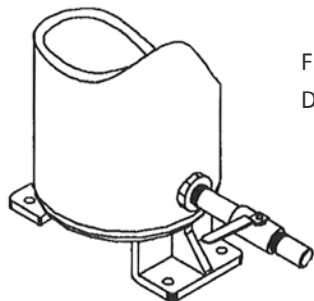
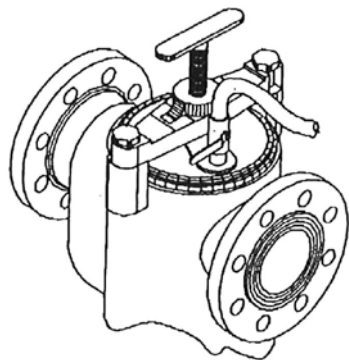

Figure 1
Figure 2
It is recommended that the bottom drain plug be removed and a drain valve be installed at the bottom of the basket chamber for strainers sized 1" and 1-1/2" flanged connections and for strainers sized 3/8" – 3" threaded connections. It is recommended that the side drain plug be removed and a drain valve be installed at the side of the basket chamber for strainers sized 2" – 8" flanged connections as shown in Fig. 1.
**CAUTION:** A vent is required when fluids other than water and with temperatures in excess of 120° F are to be handled by the strainer. The vent must be piped to a safe discharge point to protect the operator. (See Fig.2). Wear protective clothing, which includes gloves, vests, and goggles when handling dangerous fluids.
Open vent, if strainer is so equipped (See Fig. 2), to expel air from the strainer.
Tightly close valves on the inlet and outlet connections or the strainer. Open vent (See Fig. 2) and/or drain valve (See Fig.1) to relieve liquid pressure in the strainer.